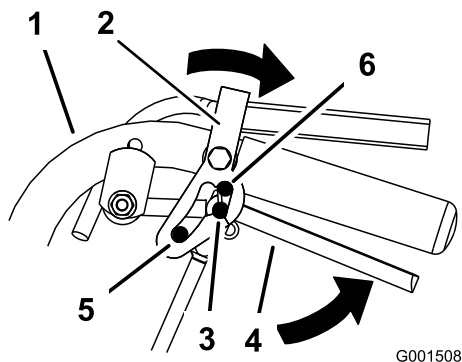

Figure 7
2. Place thumbs on the upper part of the locks and move them back (Figure 7).